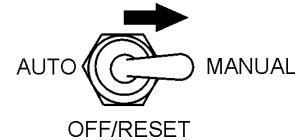

Figure 38. MPEC Control Switch (Manual Position)
2. Place the **MPEC control switch** in the **MANUAL** position to start the engine (Figure 38).